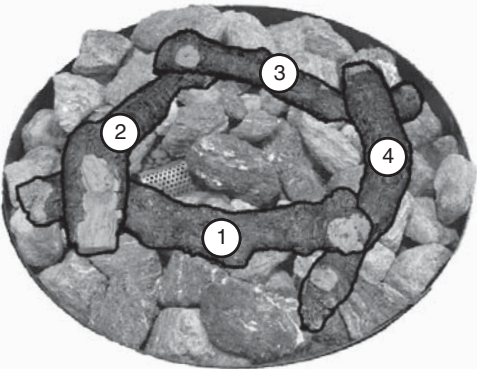

Fig. 19-2
2. Lay an end of Log #3 over the unattached end of Log #2 at a 90-degree angle (see Fig. 19-2).
3. Place one end of Log #4 over the open end of Log #3 and the other end underneath the open end of Log #1, creating a kind of square (see Fig. 19-2).